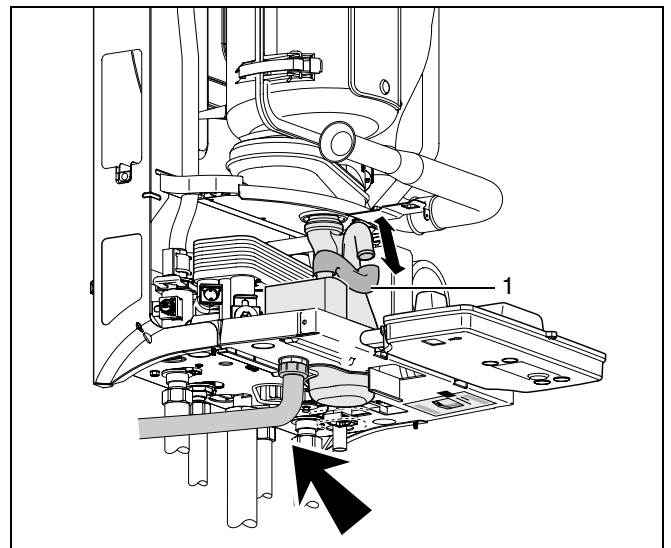
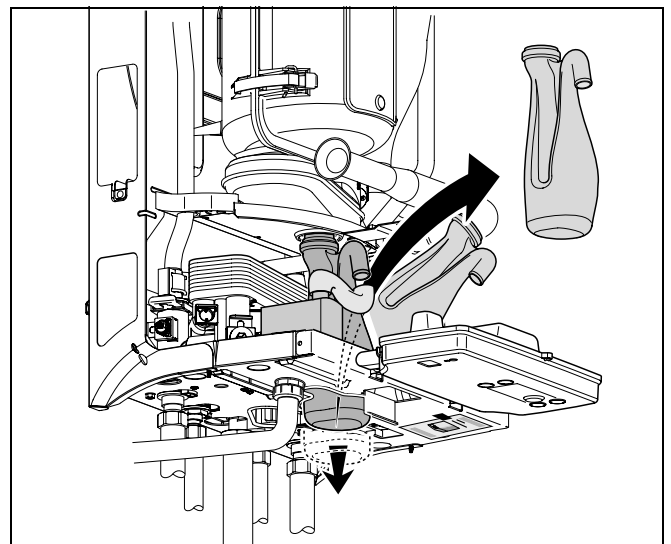

fig. 63 Disconnect hose from condensate trap
fig. 64 Remove the condensate trap
- Remove the condensate trap (fig. 63 and fig. 64).
- Undo the condensate drain connection (see fig. 63, item 1) and remove the syphon.